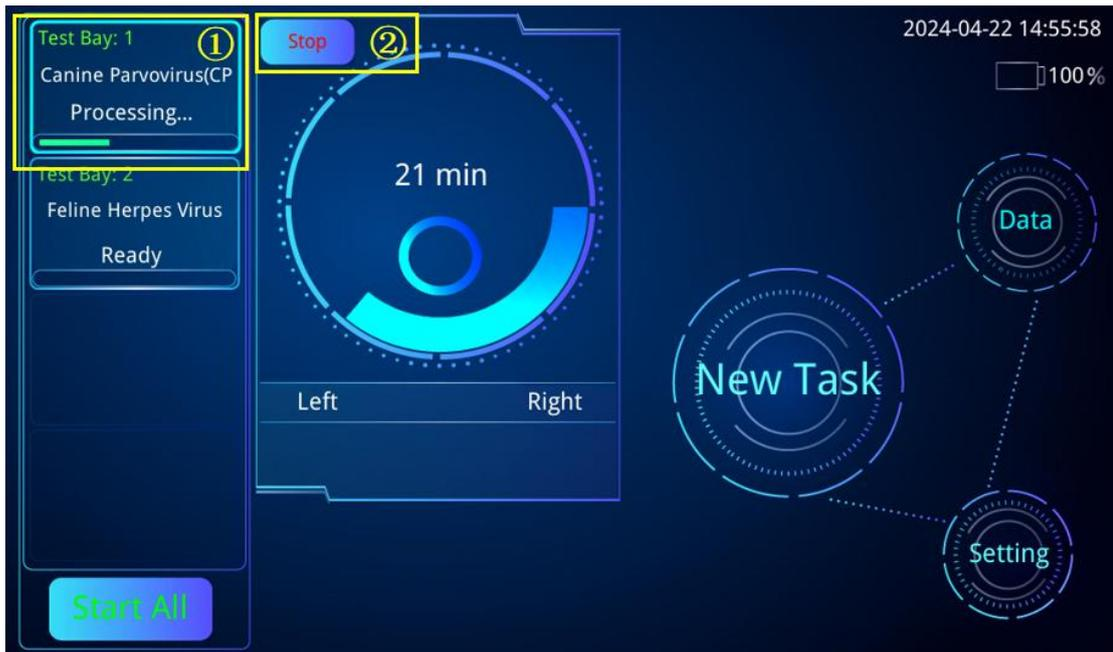
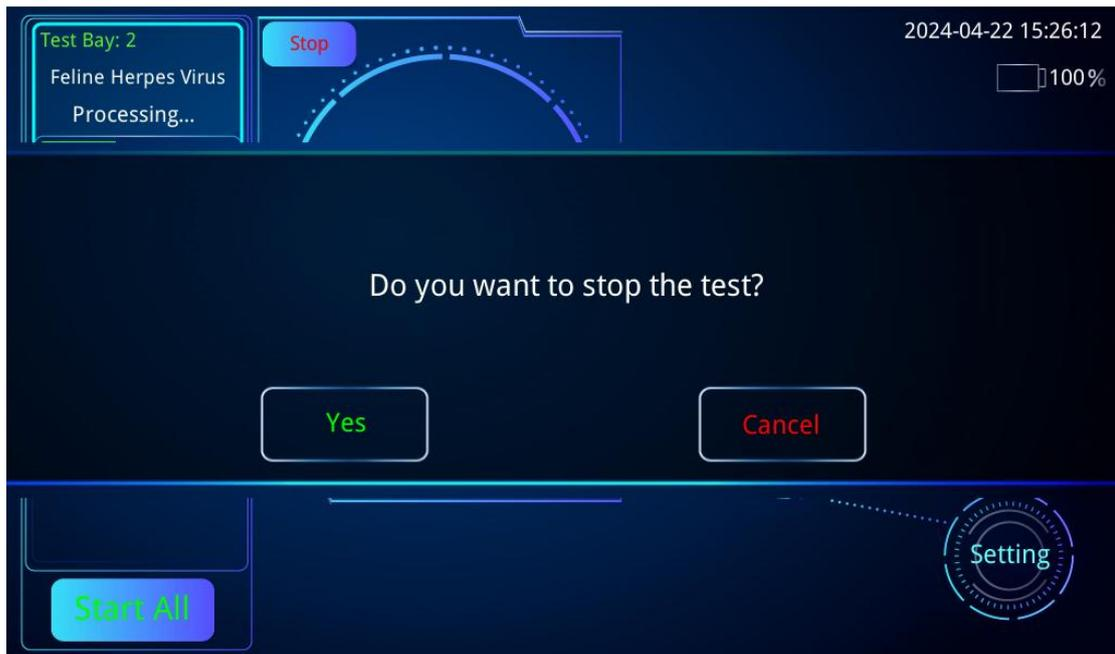

Figure 14 Main Page (Running tests)
Figure 17 Dialog Box asking “Do you want to stop the test?”
You can view the task in the Taskbar on the left side of the screen by clicking it as described previously (Figure 14 ①).
When a task is started, the status of the task is shown in its Status Box within the Taskbar, along with a real-time Progress Bar at the bottom of its Status Box (Figure 14 ①). There are two possible statuses displayed in the Status Box:
Meanwhile, the time countdown for the selected task, highlighted with a light blue outline, will be shown in the middle Time Circle. As the test progresses, the time will gradually decrease, displaying the remaining testing time (Figure 14).
While the task is running, you have the option to stop the test by clicking “Stop” on the upper left of the Time Circle (Figure 14 ②). A Dialog Box will appear asking, “Do you want to stop the test?”. Click “Yes” to stop the selected task or “Cancel” to return to the Main Page with running tests (Figure 17).